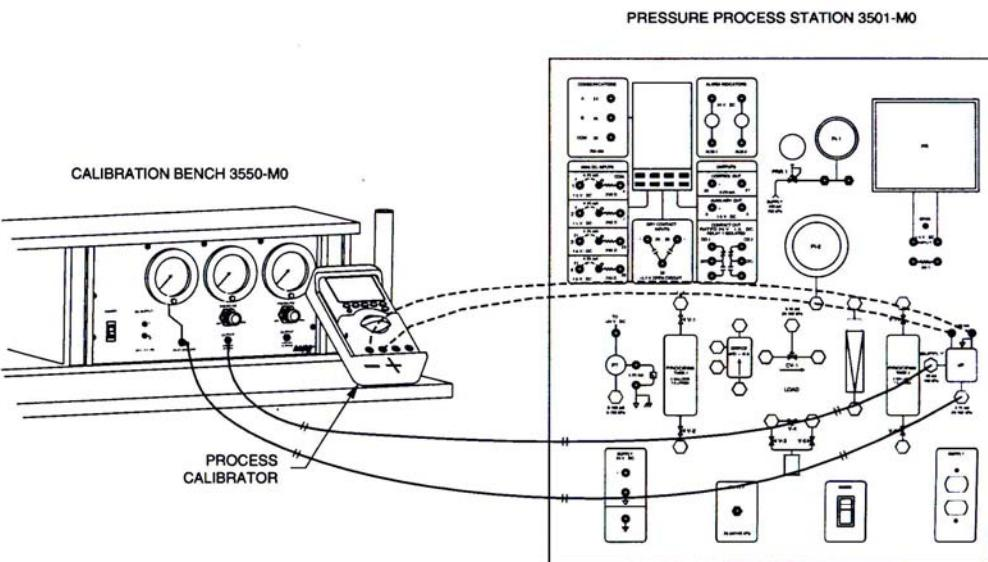

Figure 5-2. Calibration of a I/P Converter.
- 2. Connect 0.64 cm (1/4 inch) tubing from the I/P Converter output port to the 0 to 205 kPa (0 to 30 psi) gauge on the Calibration Bench. Refer to Figure 5-2.